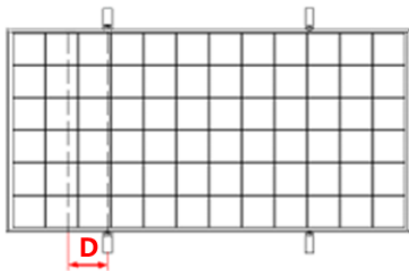
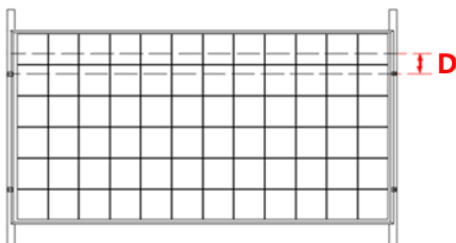
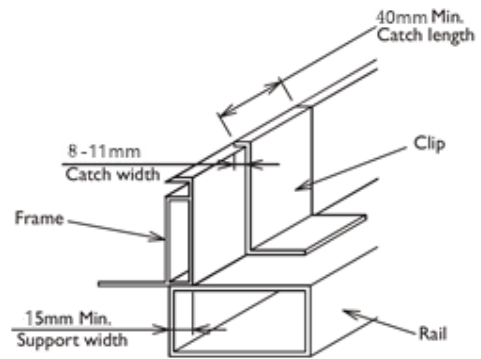

Figure 8 Rail vertical long frame installation
Figure 9 Installation of rails coincident with short frame
Figure 12 Requirements for mounting clamps when the guide rails coincide with the long frame
Photovoltaic modules can be installed across the support frame (Figure 8) or parallel to the frame of the photovoltaic module (Figure 9). When using clamps to install, each photovoltaic module must be fixed with at least 4 clamps.
- ⑦ For the installation method shown in Figure 9, the modules need to be fixed with professional solar pressure blocks (as shown in Figure 12), and the overlap between the C surface of the module and the guide rail should be $\geq 15\text{mm}$. If improper fixtures or incorrect installation methods are used, the Chint Solar limited warranty will be invalid.